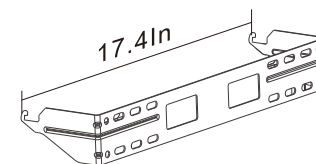

Fig. 5
3. Fix the wall Hanging Brackets to a strong wall (Fig. 5)